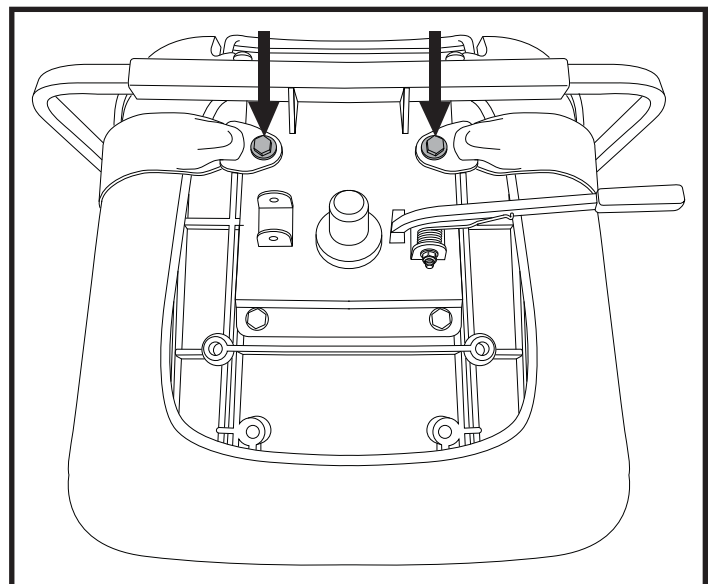

Figure 21. Positioning Belt Bolts
2. Place the seat upside down so that you can see the bottom of the seat base. **See figure 21.**